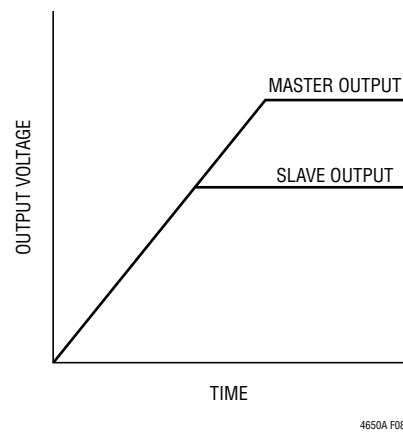

Figure 8. Output Coincident Tracking Waveform
Coincident output tracking can be recognized as a special ratiometric output tracking in which the master's output slew rate (MR) is the same as the slave's output slew rate (SR), waveform as shown in Figure 8.